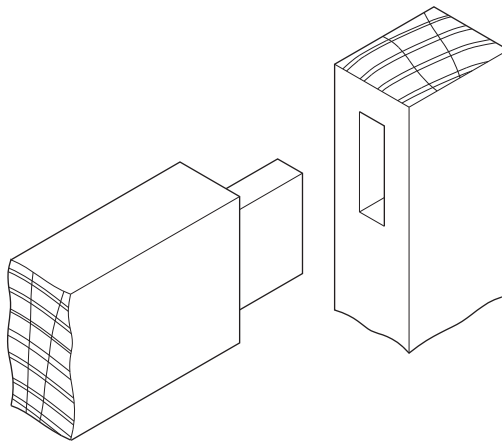

Fig. 9.3
- (b) Fig. 9.3 shows a joint that could be used in a frame construction.
- (iii) The joint in Fig. 9.3 will be assembled using adhesive.